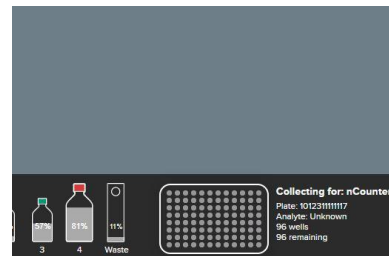

Figure 50: plate icon in GeoMx DSP Control Center
- To finalize a plate, click on the plate icon area at the lower right of the GeoMx DSP Control Center (see Figure 50). If the plate is not currently on the instrument, enter its barcode.